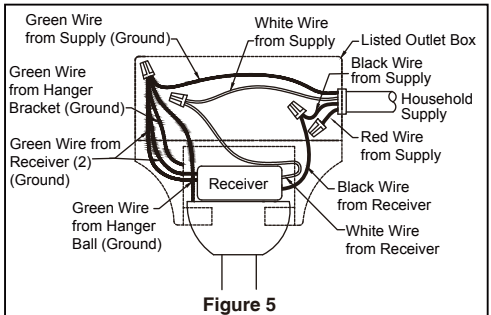

Figure 5
- ☐ 5. Route wires through motor coupling cover, canopy screw cover and ceiling canopy. (Figure 5)
4. After connections have been made, put the white and green leads to one side and the black leads towards the other side, the connection should be turned upward and carefully push leads into the outlet box. The wires should be spread apart with the grounded conductor and the equipment-grounding conductor on one side of the outlet box and the ungrounded conductor on the other side. (Figure 5)
5. To set the remote code same positions as the receiver with a small screwdriver or ball point pen (neither included), slide dip switches firmly up or down. (Figure 5)